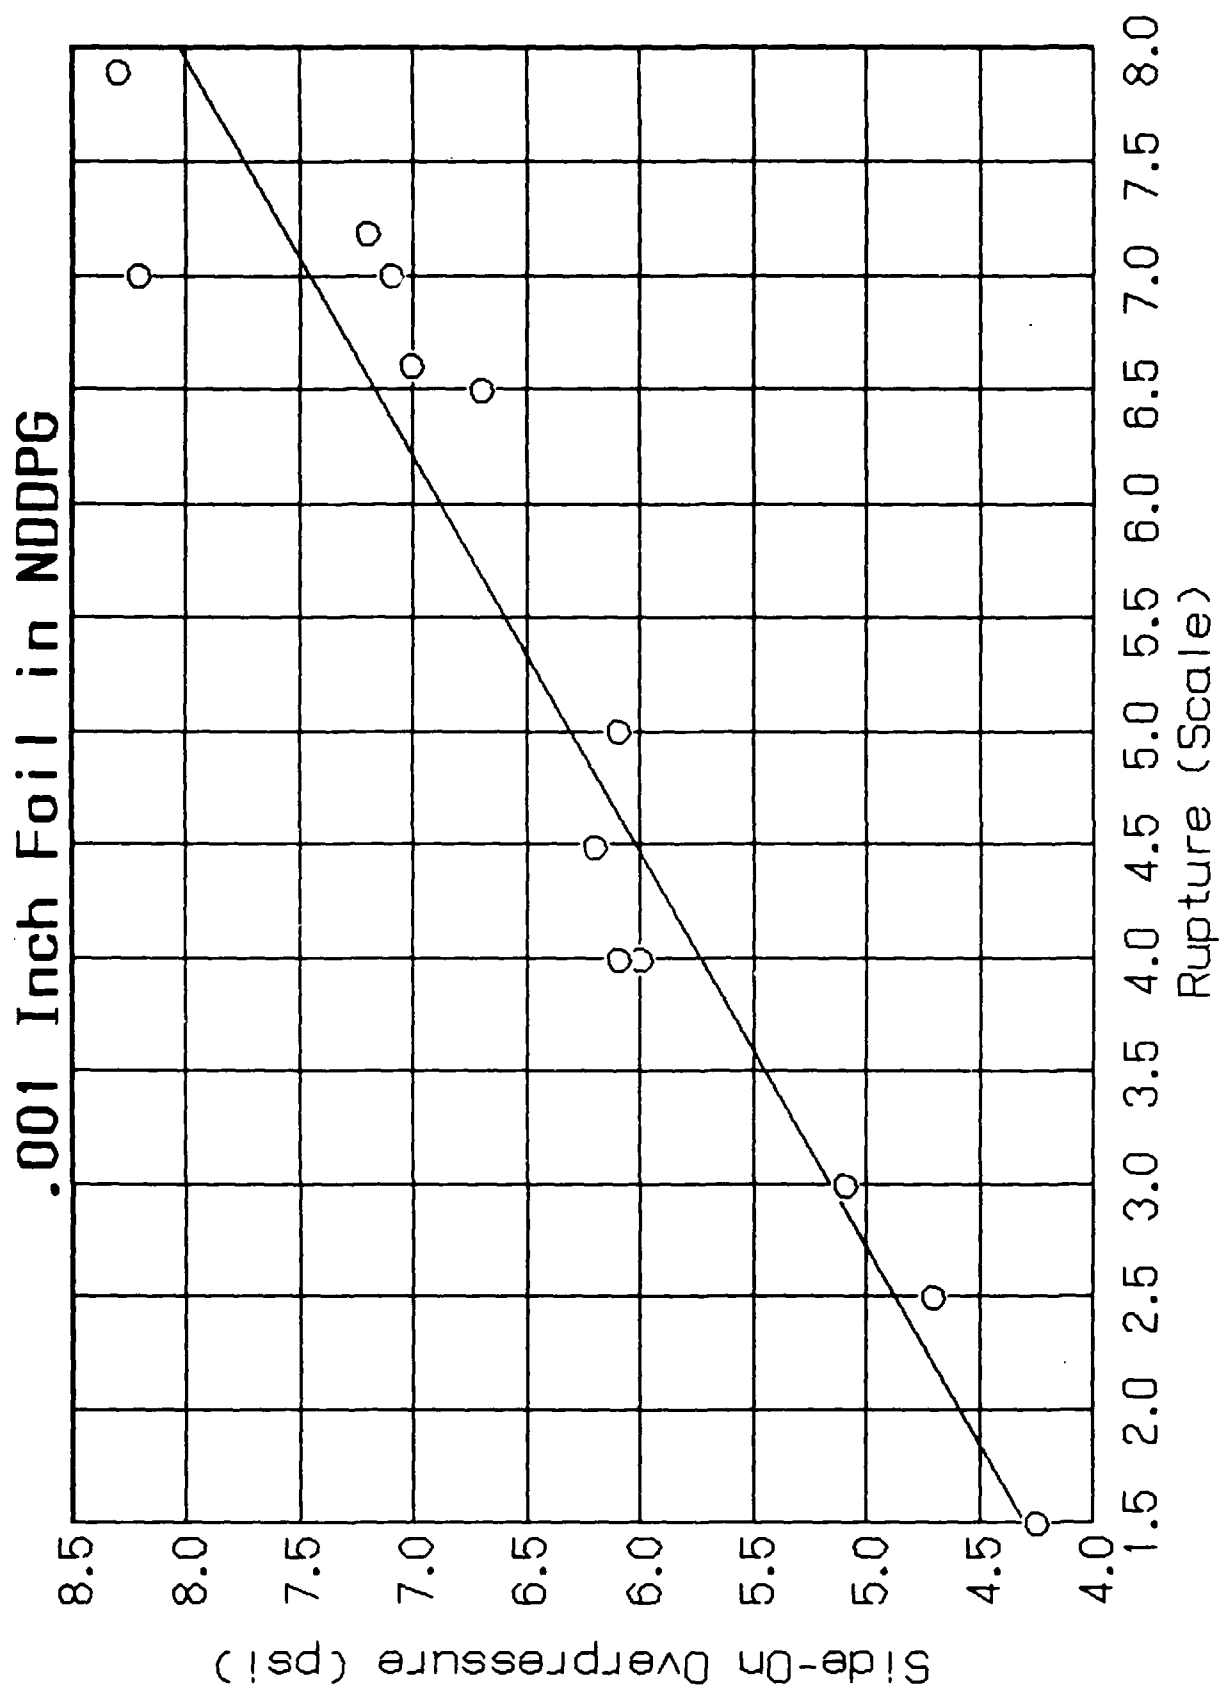

Figure 8. (U) CORRELATION CURVE C-2
- Figure 8. Correlation curve "C2": Side-on overpressure (PSI) correlated with rupture only (scale), using .001-in. foil . . . 12
2.11.6 Calibration Curve "C2." Choose calibration curve "C2" to determine side-on overpressure when rupture occurs. This curve correlates side-on overpressure with rupture for .001-in. foil, with the plane of the foil oriented normal to the direction of propagation of the initial shock (Figure 8).